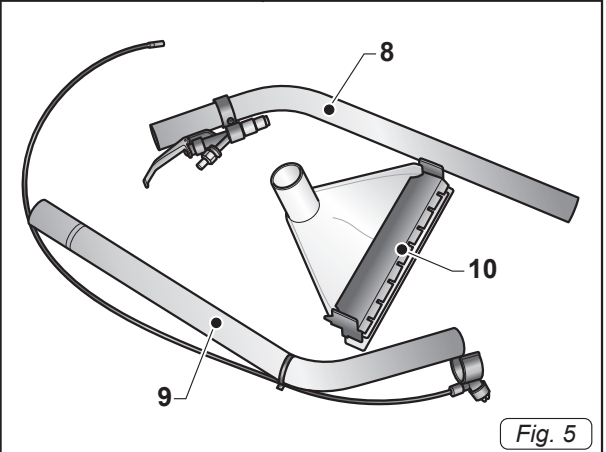

Fig. 5
- Top Tube (8 Fig. 5).
- Lower Hose (9 Fig. 5) complete with pipe cleaner and nozzle.
- Nozzle for carpets and floor coverings (10 Fig 5).